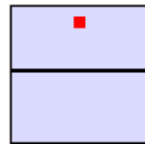

Figure 2-34 System Controller Representation
3. Drag and drop the object in the Resource Editor. The object is available in the Editor. A sample of the object appears as shown in Figure 2-34.